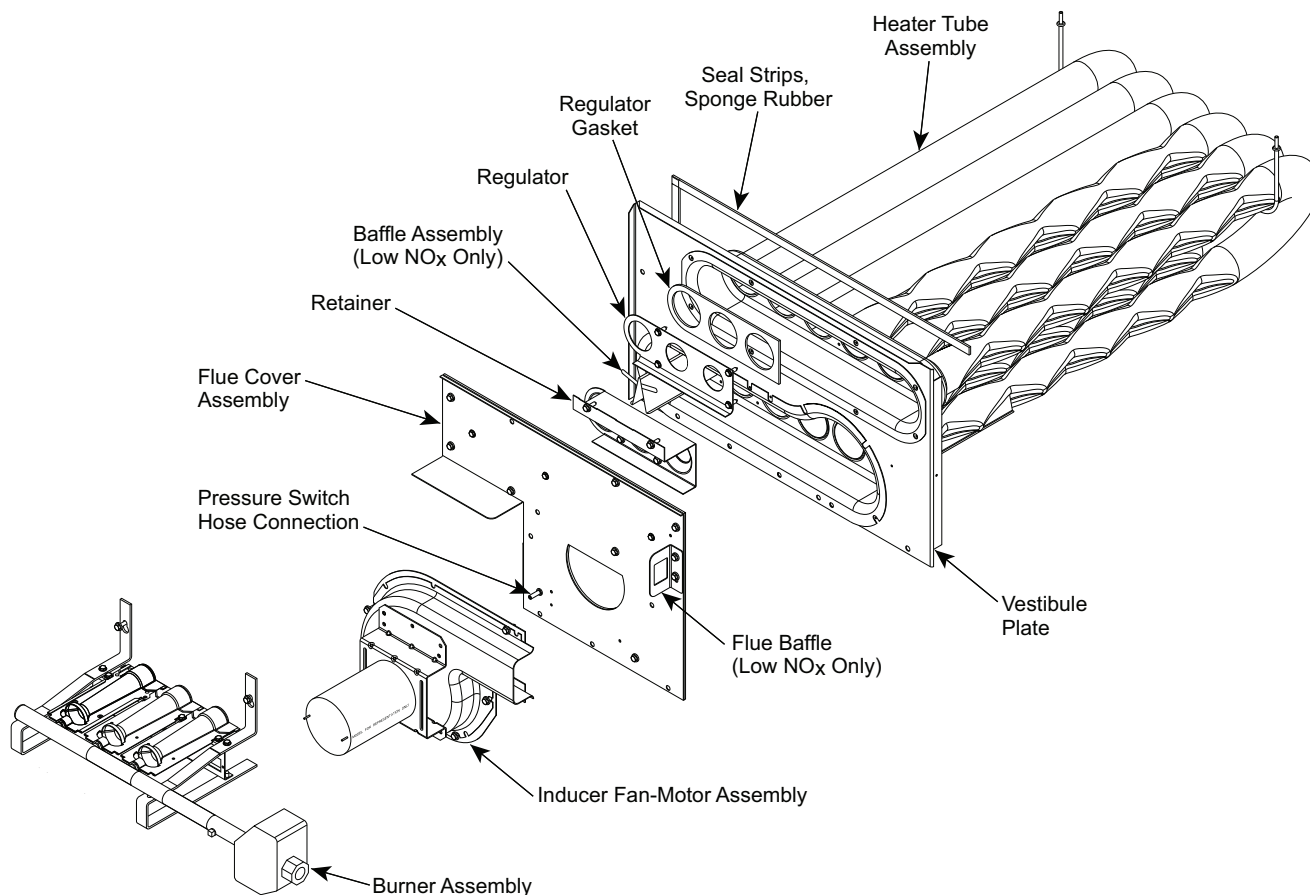

Fig. 50 — Heat Exchanger Assembly
1. Remove the combustion blower wheel and motor assembly according to directions in Combustion-Air Blower section. See Fig. 50.
2. Remove the 7 screws attaching the induced-draft motor housing to the vestibule plate. (See Fig. 50.)
9. Remove the 2 screws attaching the burner rack to the vestibule plate (see Fig. 50).
10. Remove the pressure switch hose from the connection on the flue cover assembly (see Fig. 50).
14. Separate the following from the heat exchanger: inducer fan-motor assembly, flue cover assembly, retainer, regulator, regulator gasket, and if a Low NOx unit, also remove the baffle assembly. See Fig. 50.